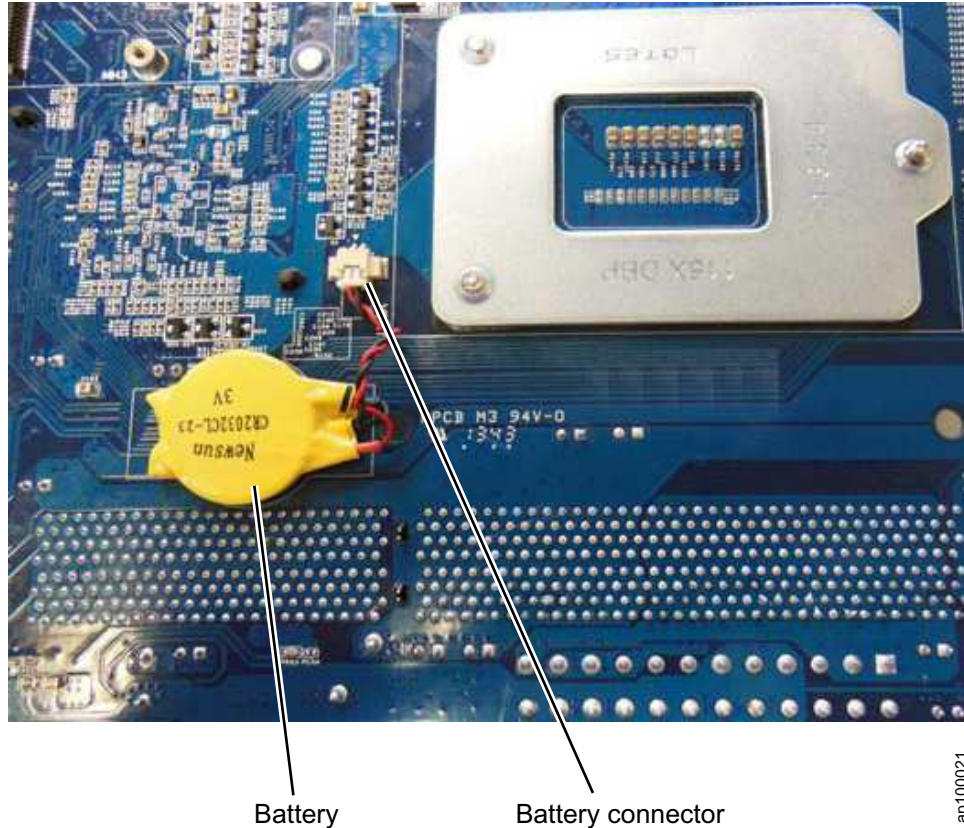

Figure 21. Battery location inside the processor unit
3. Unplug the yellow battery from the battery connector and remove the battery. (Figure 21 on page 44)